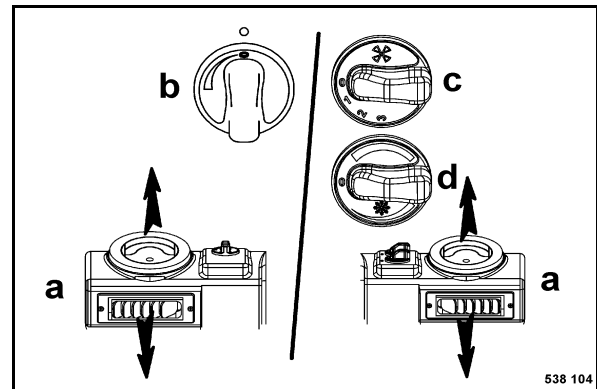

Fig. 74
- Turn the air nozzles (a) (Fig. 74) to direct the air flow down into the footwell.